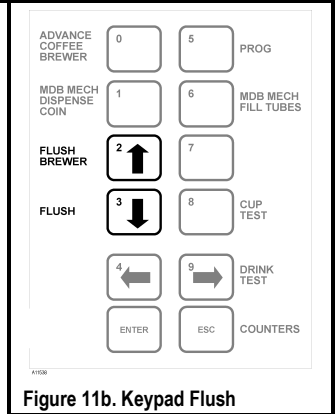

Figure 11b. Keypad Flush
1. Go to the internal keypad, press the square next to FLUSH to clean the whipper bowls. See Figure 11b.
2. In a Fresh Brew Machine, after step 3, press the square next to FLUSH BREWERS to clean the brewer and filter. See Figure 11b
1. Turn off the Power Switch and shut off the main water valve to the machine. Remove the plug from the hot water tank drain tube and empty the tank contents into the drain bucket. See Figure 11b.